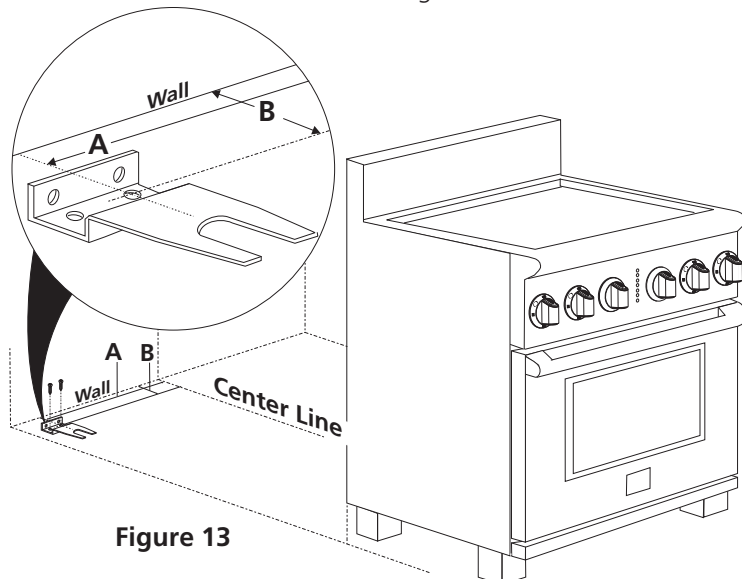

Figure 13
when installed. (Use the diagram in figure 13 to locate bracket if template is not available.)
5. Remove template and place bracket on floor (see figure 13). Line up holes in bracket with marks on floor and attach the bracket using the screws provided. Brackets must be secured to solid floor. If attaching to concrete floor, first drill 3/16" (4.8 mm) dia. pilot holes using a masonry drill bit.